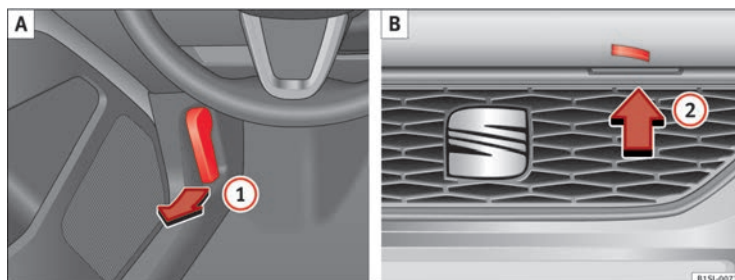

Fig. 109 A: Release lever in the footwell on the driver side B: Release lever on the bonnet
- Before opening the bonnet, make sure that the windscreen wiper arms are in place against the windscreen ⇒ ①.
- Pull the release lever ① in the direction of the arrow ⇒ Fig. 109 A. The bonnet is released from the lock carrier by a spring mechanism ⇒ ⚠.
- Lift the bonnet up slightly while pressing the release lever ② B in the direction of the arrow to completely open the bonnet.
- Take out the bonnet support rod from its clip in the direction of the arrow ③ C and place it in the corresponding open position ④ D (arrow).